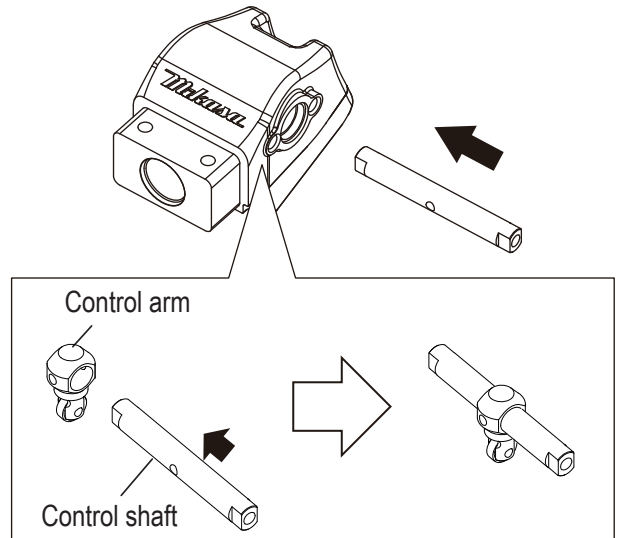

Fig.31
c. Insert the control shaft from the hole on the opposite side of the bush (on the left side of the pump head), and assemble the control shaft and control arm inside the pump head. At this time, align the positions of the holes for the spring pins.(Fig.31)